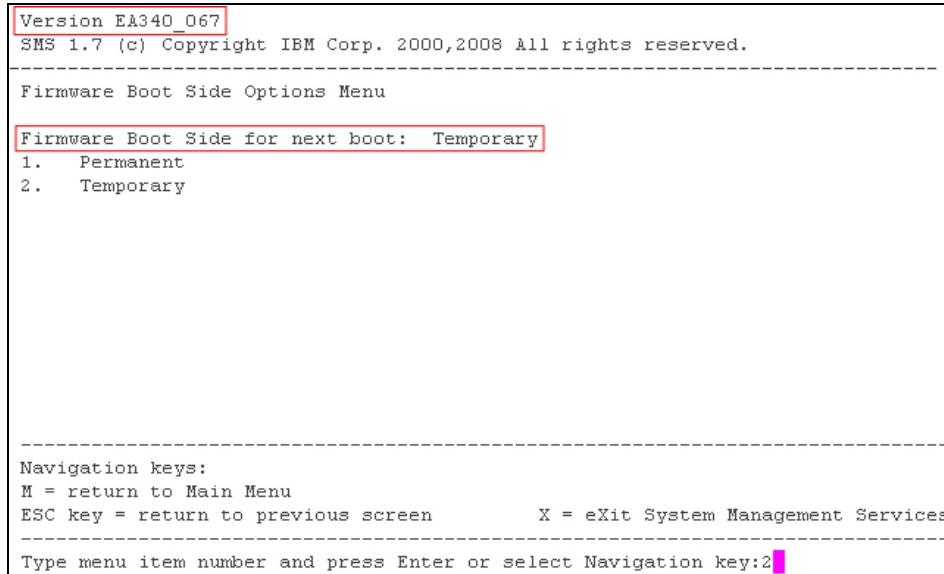

Figure 12-6 SMS firmware boot side options
3. Figure 12-6 on page 468 shows the SMS Boot Side Option Menu. In the upper left corner you can find the level of firmware being used, and just above options 1 and 2 you can find the firmware side being used. Type 2 and hit Enter to select the TEMP side for the next boot.